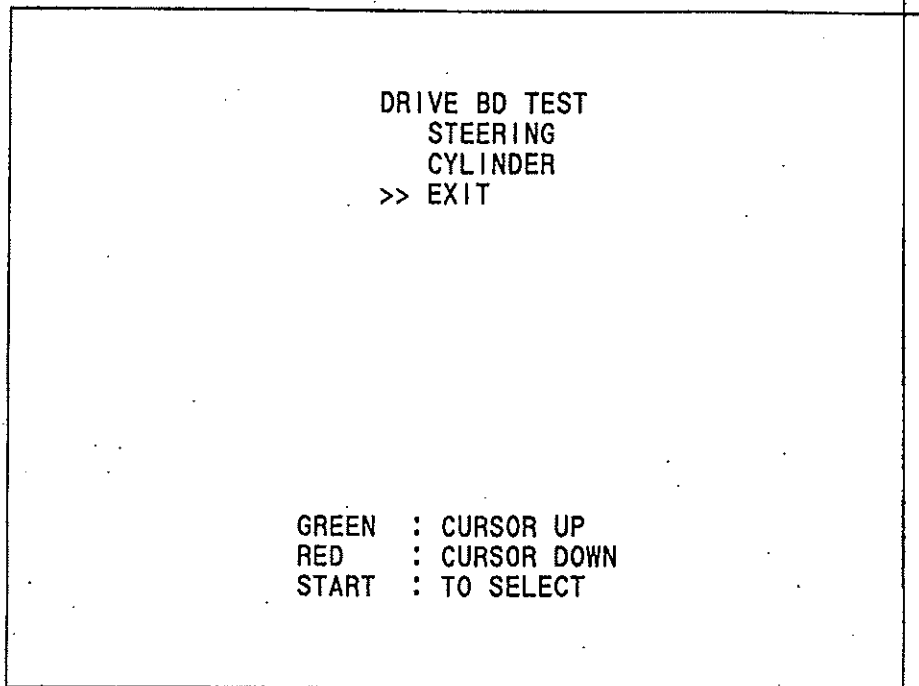

FIG. 10.8 DRIVE BD TEST
This test is comprised of 2 screens of which one allows the Steering Wheel Reaction Mechanism to be checked, and the other enabling Seat Moving Mechanism to be checked. Select "DRIVE BD TEST" on the MENU screen (Fig. 10.2) to have the screen (as shown in Fig. 10.8 a) appear. By using the SERVICE SW or VR1 (red) or VR4 (green), bring the arrow (>>) to the desired test item.
Fig. 10.8 c CYLINDER TEST
Choosing "CYLINDER" in Fig. 10.8a causes Fig. 10.8 c screen to be displayed. This screen allows Seat movement mechanism, etc., to be checked. Move the arrow (>>) by using the SERVICE SW or VR SW1 (red) or VR SW4 (green). Check if the Seat movements are in accordance with the setting pointed by the arrow and the ENTRY LAMP lights up. On this screen, periodically check if the movements are in compliance with the settings.
- **EXIT** To return to the MENU screen (Fig.10.8 a).